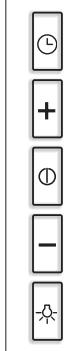

Fig.1
- #### CONTROL PANEL - TYPE 1 (Fig.1)
CONTROL PANEL - TYPE 2 (Fig.1)